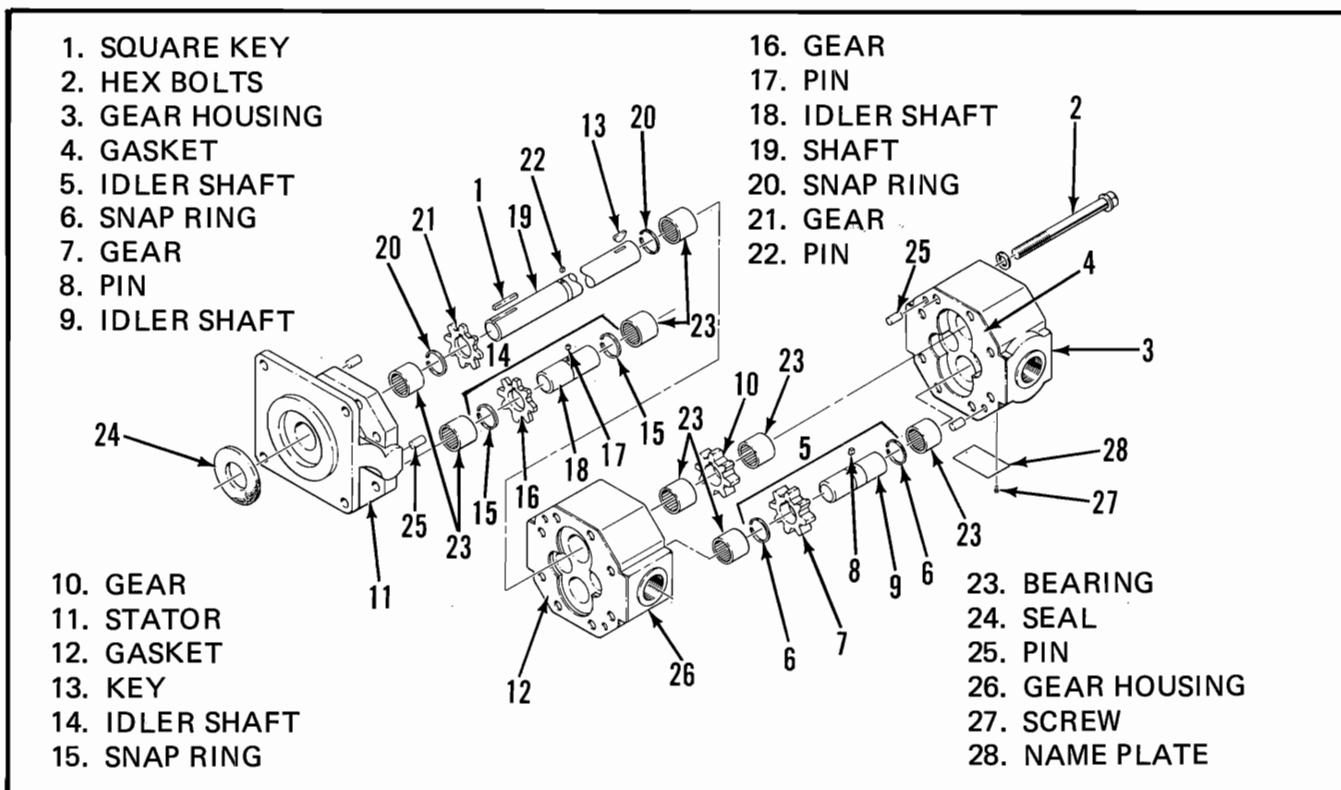

Figure 5-8. Hydraulic Pump Disassembly
- (1) Disconnect the hose assemblies (1, 2 and 3) and plug them.
- (2) Loosen the setscrews (4 and 5) then slide the three piece coupling (6) toward the motor as far as possible.
- (3) Remove the nuts (7) and lockwashers (8) to free the pump (9) from the mount.
- (4) As the pump (9) is maneuvered away from the mount, slide the coupling off the pump shaft. Take care to retain the key (10).
b. Disassembly and Inspection (Figure 5-8).